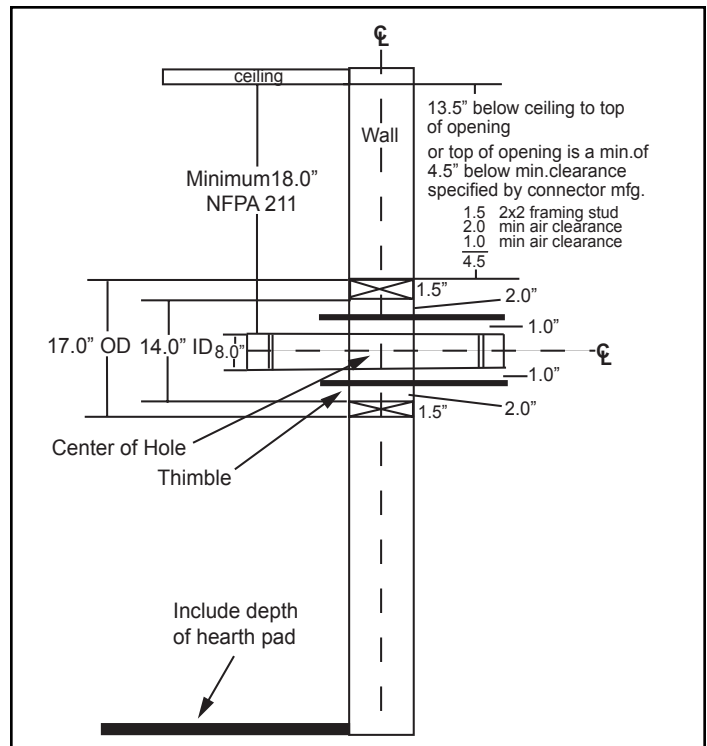

Figure 4.3
- Top of wall opening is a minimum of 13-1/2" (343 mm) from ceiling or 4-1/2" (114 mm) below minimum clearance specified by chimney connector manufacturer. NFPA 211 minimum vertical clearance of 18" (457mm) from chimney connector and ceiling or minimum recommended by chimney connector manufacturer, Figure 4.3
1. Open inside wall at proper height for the chimney connector to enter the masonry chimney, Figure 4.3